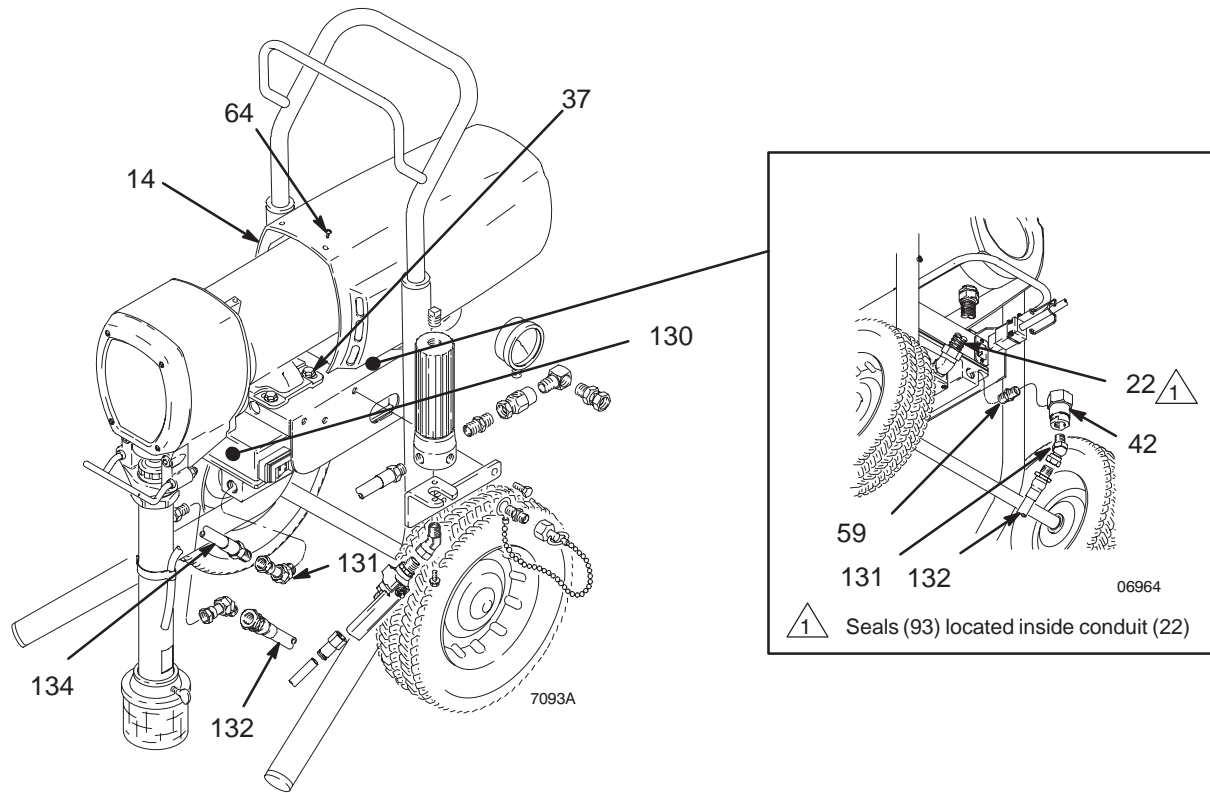

Fig 15
2. Remove ten screws (64) and motor shield (14). See Fig. 15 and parts list.